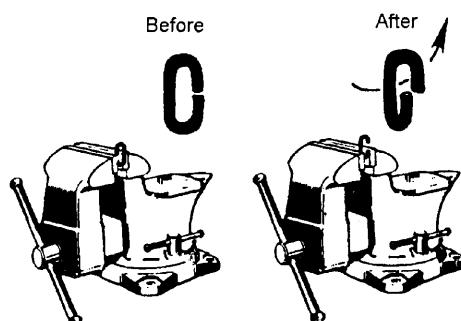

Figure 8
- Using an adjustable wrench, twist the link horizontally from front to back. (Figure 8) Open just far enough to insert (or remove) a second chain link.